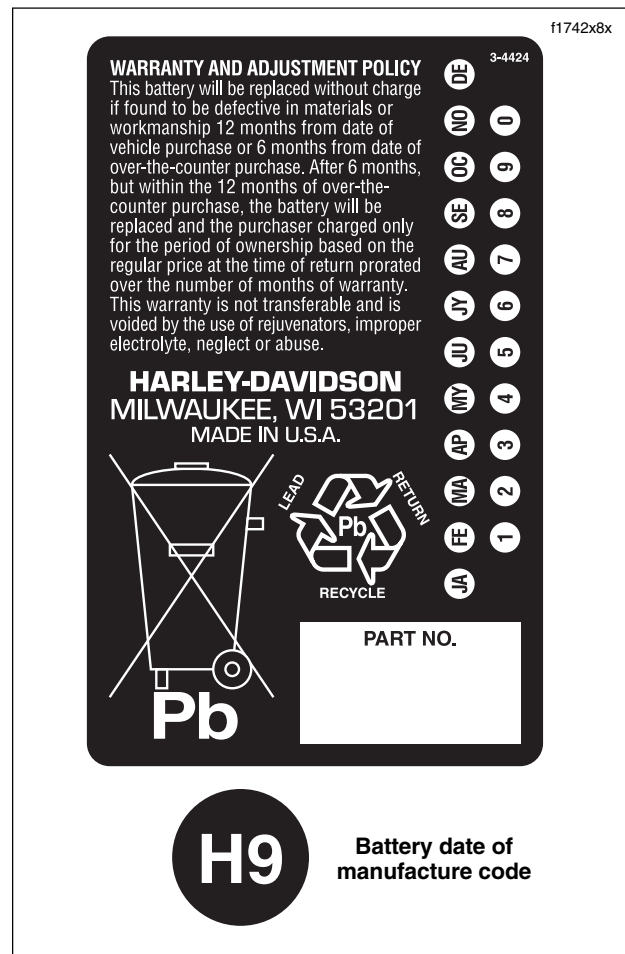

Figure 1-29. Battery Warranty Tag/Date Code Sticker
See Figure 1-29. The battery date code sticker has a number and two letters. The number signifies the year the battery was manufactured.
6. See Figure 1-29. Mark the date on the battery warranty tag by removing the applicable month and year. If the date is after the 15th day of the month, advance the date to the next month. For example, if the battery is put in use July 22, punch out the month of August, which is abbreviated on the tag as “AU.” To determine the correct number to punch out for the year, just reference the last digit of the current year. Therefore, the number “5” is punched to signify the year 2005.